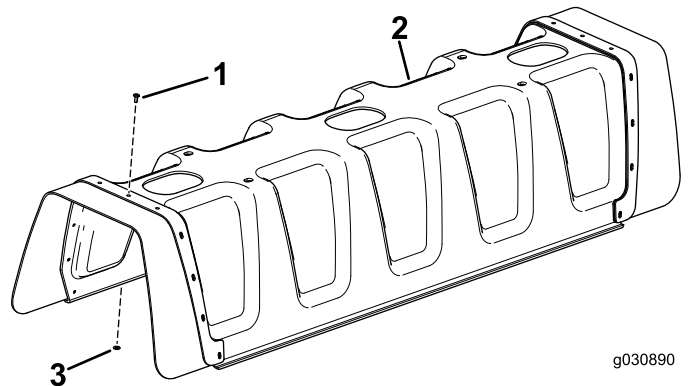

Figure 4
3. Install 11 pop rivets (3/16 x 1/2 inch) and washers (3/16 inch) to the center-boom cover (Figure 4).